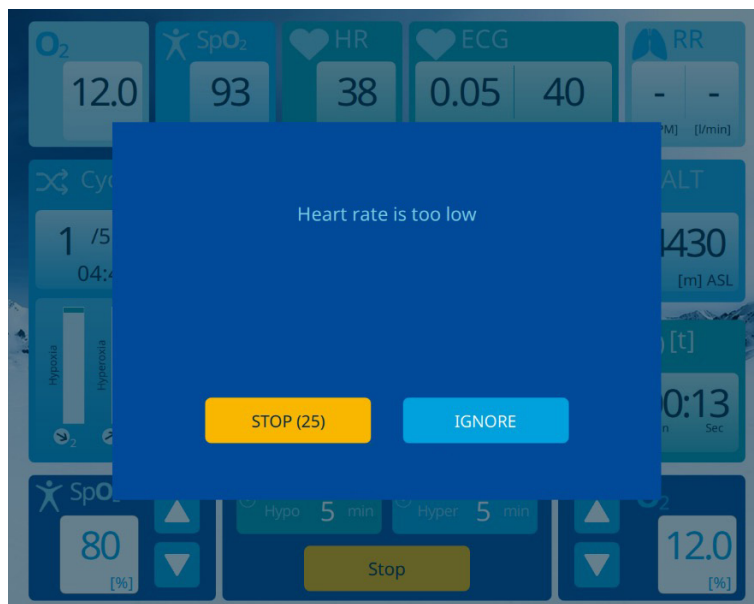

Figure 29 – “Heart rate is too low” message
- “Heart rate is too low” (Figure 29).